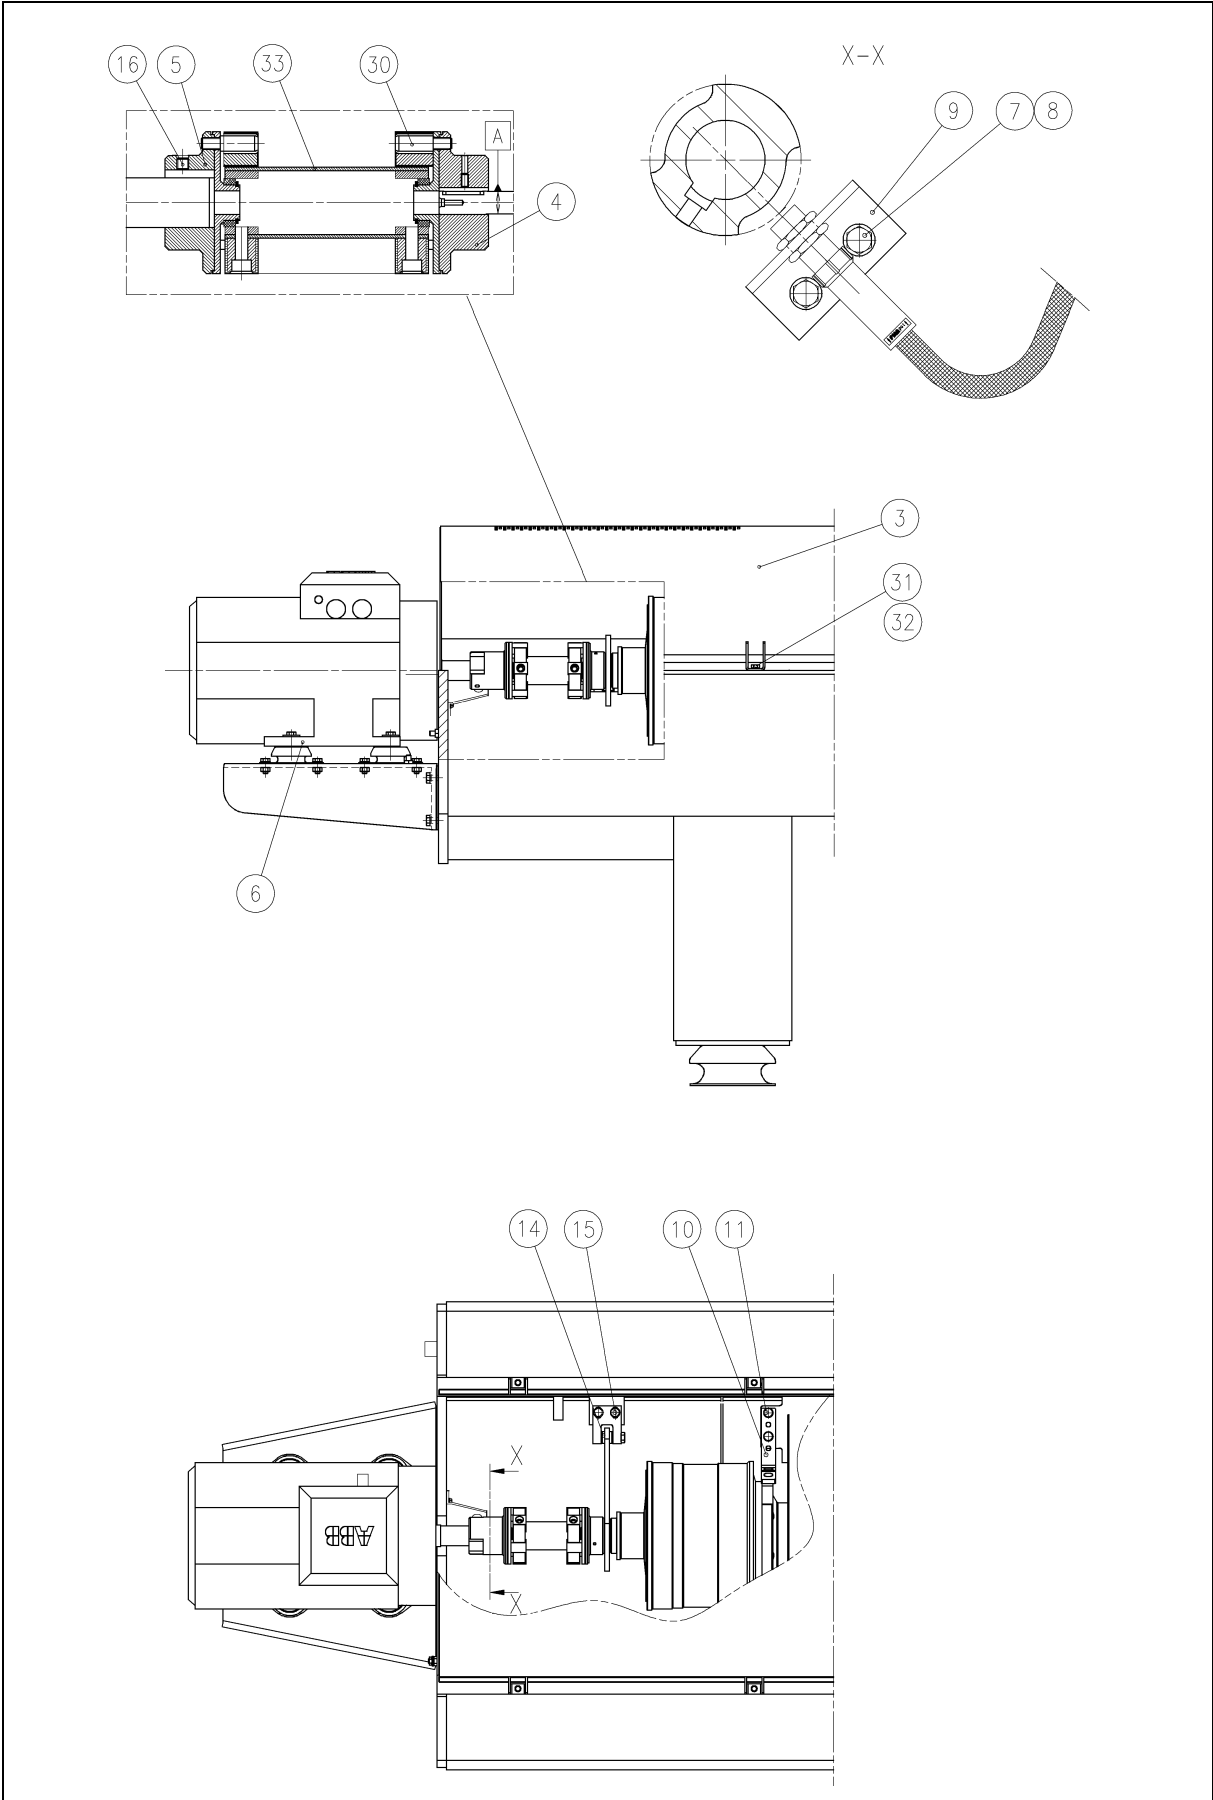

Figure 4.6.1
4.6.1 Disassemble ECB/VFD (Fig. 4.6.1)
4.6.2 Assemble ECB/VFD (Fig. 4.6.1)